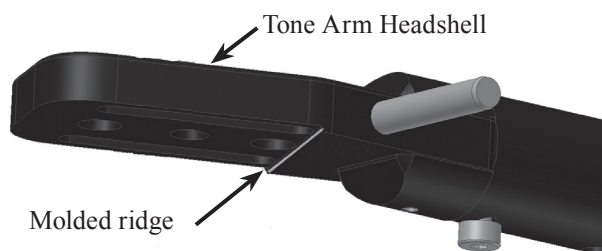

Figure 7
- Position the Cartridge up to the underside of the Tone Arm Headshell, with the top rear edge of the Cartridge parallel to and touching the molded ridge of the Headshell. Refer to figures 7 and 8.